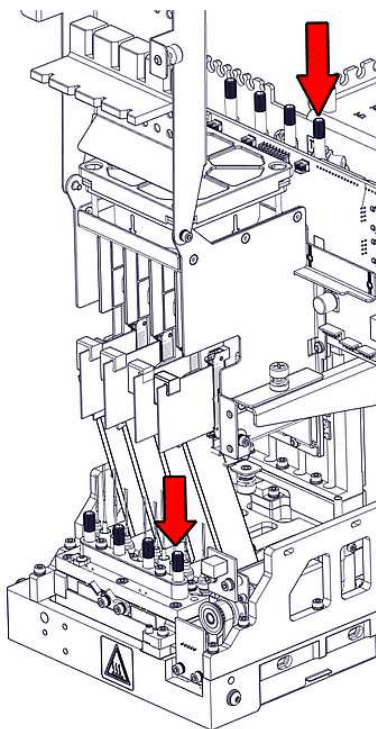

Figure 4-109 Releasing the print head
19. Tighten the upper and lower screws that secure the print head in the print block (see Figure 4-109 on the previous page).